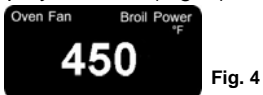

Fig. 4
2. Press the "Oven" button three (3) times to select the "Convection/Fan Broil" feature. The default temperature will be displayed on the display window. (Fig. 4)